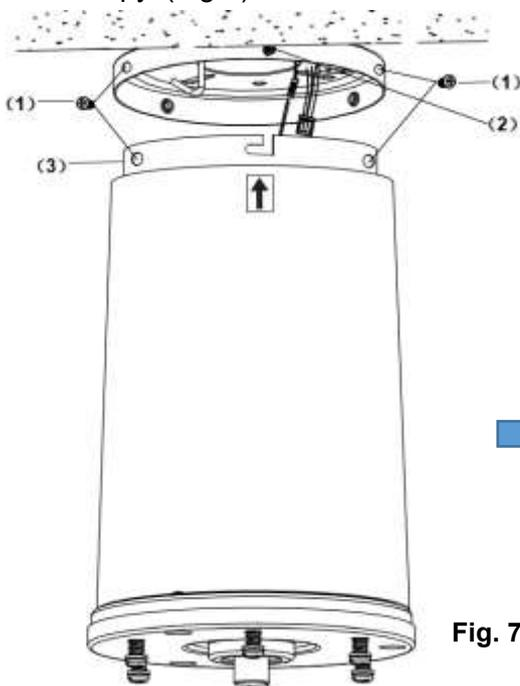

Fig. 7
- Lift the hanging canopy of the fan assembly up to the mounting bracket and let the L-shape slot on the hanging canopy go through the two canopy screws with star washer (2). (Fig.7)
- Turn the hanging canopy (3) until it locks in place at the end section of the L-shape slot, ensure the star washer are between the hanging canopy (3) and screw head. Secure it by tightening the two canopy screws with star washer (2). (Fig.7)